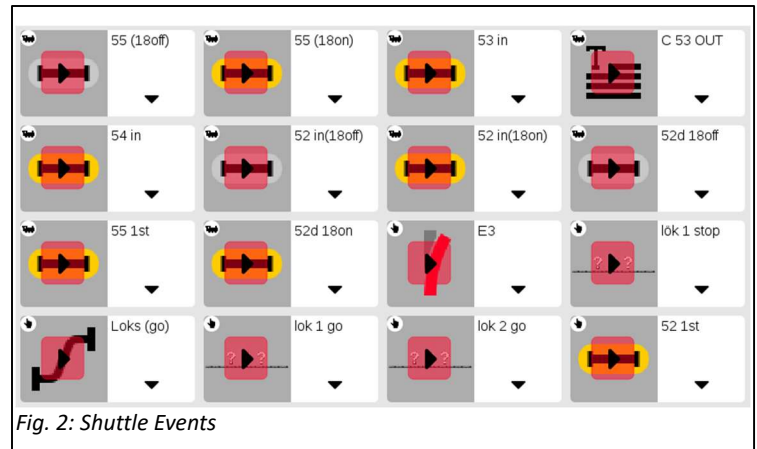
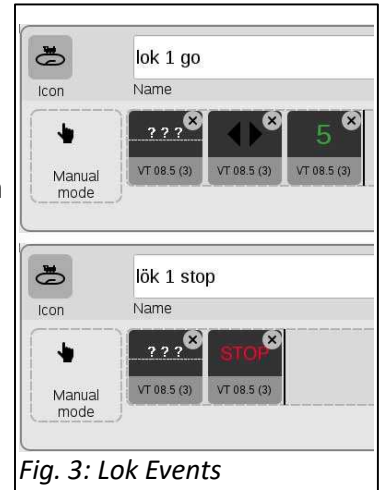

Fig. 2: Shuttle Events
Fig. 3: Lok Events
I took the body off and noticed that there was a modern 60972 decoder and LED circuit board for the headlight. What struck me as odd was that there were LEDs on the circuit board for both the upper and lower headlights and number board lights (Fig. 2), and not only that, they were wired also to the decoder mounting board (Fig. 3). This gave me the idea that maybe they could be powered by the decoder.
The first step was to eliminate a status sensor (contact '24 (18)') and remove all the events written involving the Shuttle routing. I did this because I find it easier to start with a clean slate rather than try to overcome any unforeseen compatibility issues with older code. I will keep the 'Lok...' events as they are simply locomotive commands and not related to track routing. Fig. 2 shows most of the events used previously.
The 'Lok x go' and the 'Lok x stop' events were simple constructs that set the speed for each Lok in use. Fig. 3 shows both events for a single Lok. How I use these events in shuttle routing will become evident later. They also simplify the process of changing locomotives that are part of a routing program, like the shuttle.